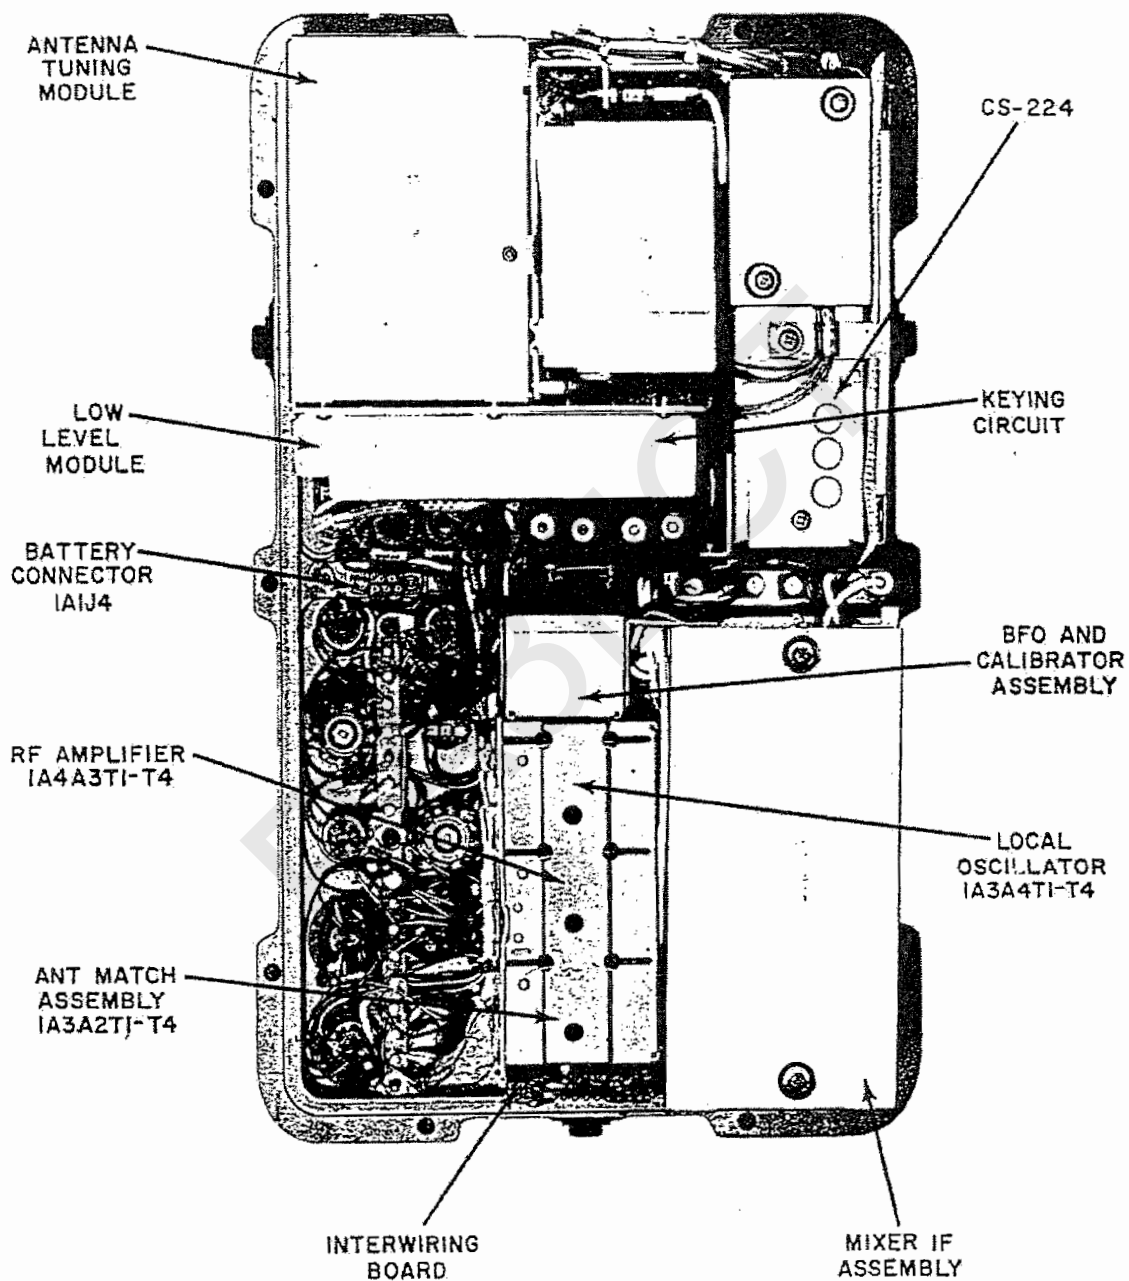

Figure 5-3. TAR-224 Module Location (bottom view)
- (3) While holding the case to the front panel, turn the radio set over (end over end) with the CS-224 section of the front panel away from you and to your left (figure 5-3).
- (4) Lift case up and away from front panel.
- (1) Position the front panel as it was in the case removal procedure, paragraph 5.3a. Be sure that the O-ring is properly installed in the front panel.
- (2) Lift the case up and position it over the rear of the front panel; carefully push the two together. Be sure that the battery connectors are engaged (figure 5-3).
- (3) While holding the case and front panel together, turn the radio set over and rest it on its case.
- (1) Remove two common screws securing the cover to the module can and remove the cover (figures 5-3 and 5-4).
- (4) Replace the module cover and screws (figures 5-3 and 5-4).
- (1) Remove the module cover (figures 5-3 and 5-4).